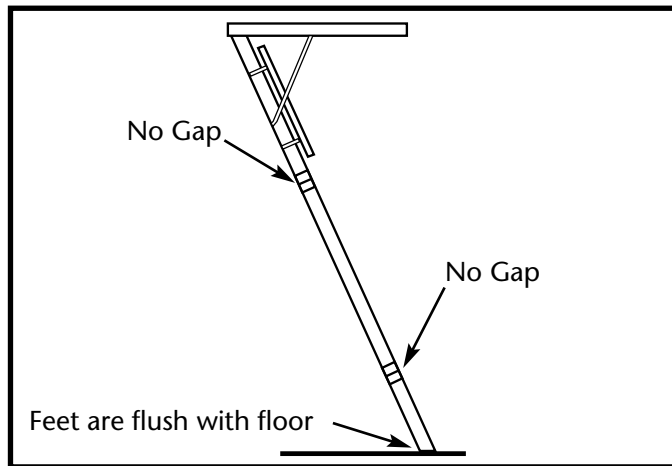

Figure 24. Correct Setup
STEP 7. Test the trim of the access ladder legs by fully extending the access ladder for use. The access ladder should look like Figure 24. There should be no gaps between the metal hinges and the feet should be flush with the floor.